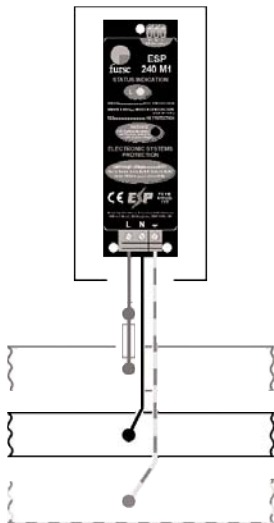

Figure 10 - Busbar mounted 63 or 100 amp HRC fuse at the end of the live connecting lead.
- (a) installing 63 or 100 amp high rupture capacity (HRC) fuses or switchfuses in the connecting leads at the supply end of the lead. (See Figure 10).